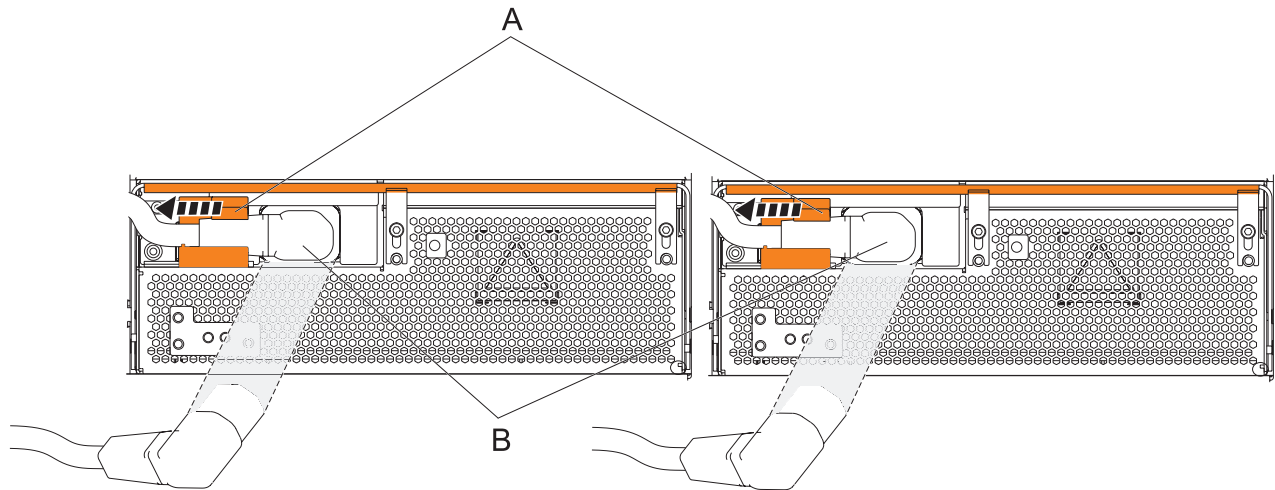

Figure 83. Disconnecting the OCA power cords
- a. Slide the power cord holders (**A**) to the left, located on the front of both the OCAs. See Figure 83 on page 119.